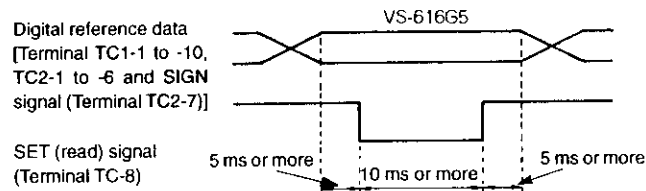

Fig. 5 Timing of digital instruction read signal
* SET (read) signal is the signal to read digital is speed reference data. When reading, close between terminals TC2-8 and TC2-9 by the timing shown in Fig.5.